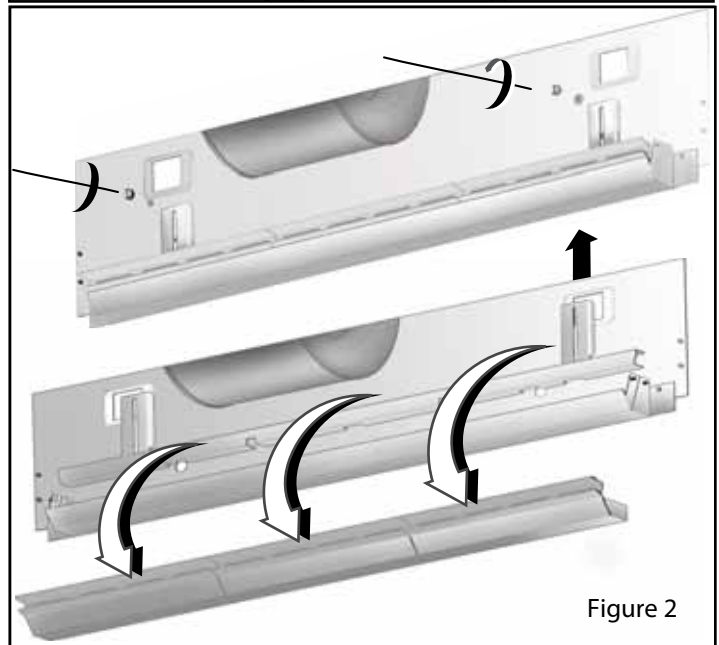

Figure 2
- Unscrews the knobs that fix the drip trays holding brackets. Figure 2
- Grasp the drip tray and carefully lift it up and out of the hood track. Figure 2.